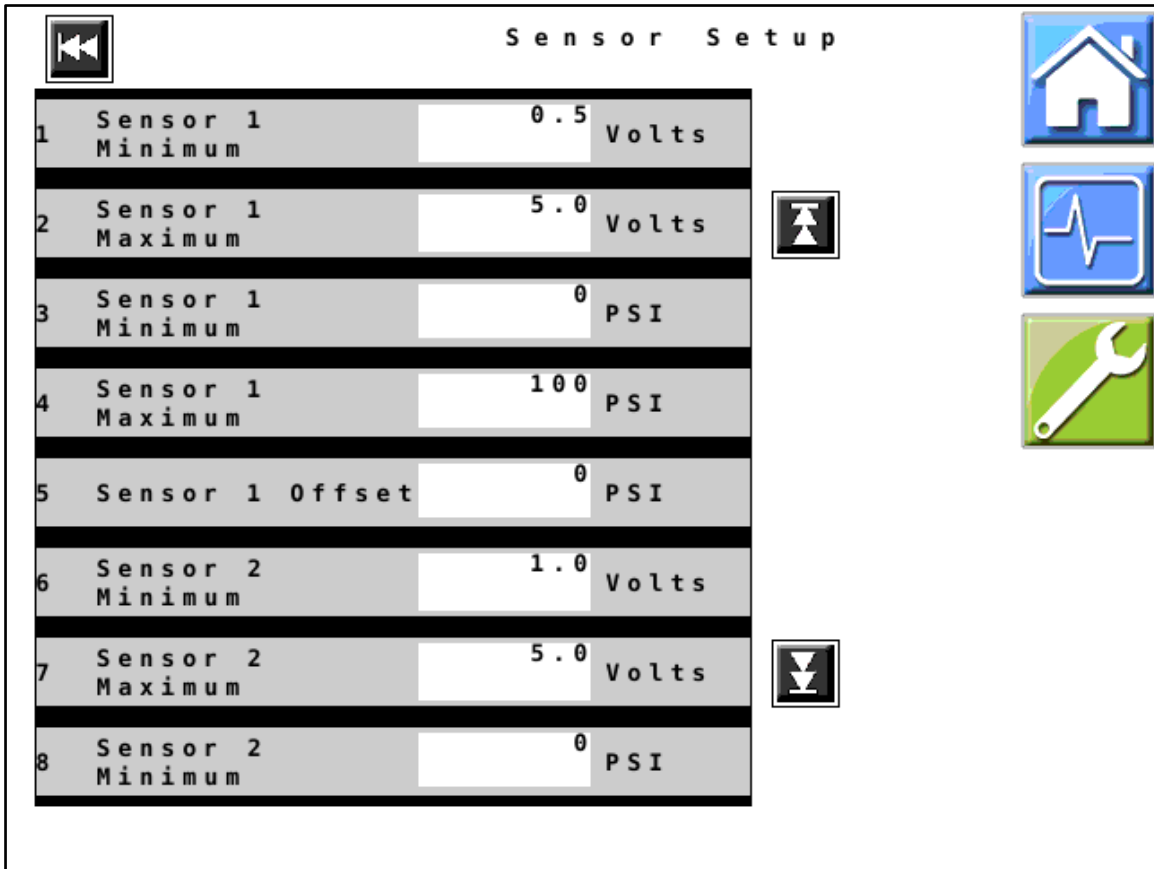

Figure 16 — Sensor Setup Page 1
30. *Figure 16*: Verify that all values displayed on your unit match those shown here. Change values if necessary.